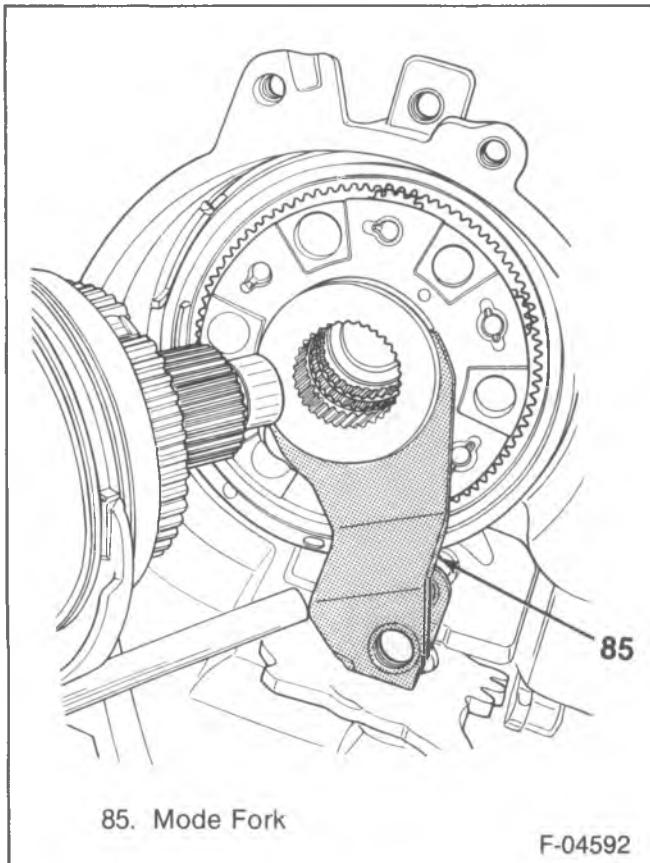
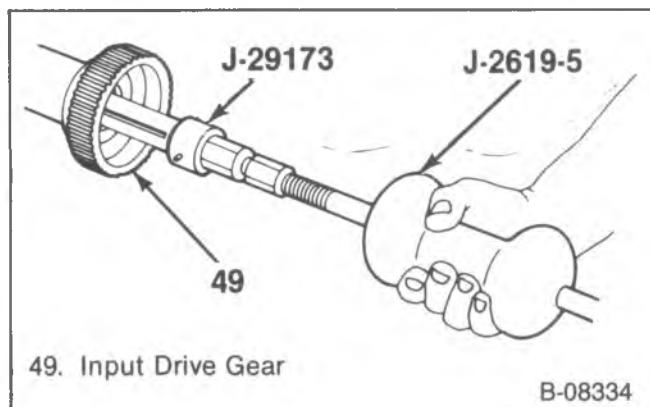

Figure 67—Mode Fork Assembly
Figure 68—Input Gear Bearing Removed
5. Retainer (51).
- Synchronizer sleeve (53).
- Synchronizer thrust washer (54).
- Synchronizer hub (55).
- Synchronizer ring (56).
6. Range fork (81), range selector (82), mode fork (85) and range shift hub (50) (figure 67).
- Shift lever nut (27), washer and shift lever (28).
7. Input shaft bearing retainer (43) and seal (38).
8. Bearing retainer (36).
9. Bearing (35) and planetary assembly (44).
- Bearing (35) from the input gear (41) with J-22912-1.
10. Retainer (34).
11. Carrier lock ring (33).
12. Thrust washer (32).
13. Needle bearing (40) from the input gear (41).
- Insert J-29369-1 and adapter with J-2619-5 (figure 68).
14. Drive sprocket (14) from the main drive shaft (1).
15. Needle bearings (13) from the drive sprocket (14).
- With J-2619-5 hammer the bearing from the drive sprocket (14).
16. Retainer (20).
17. Bearing (21).